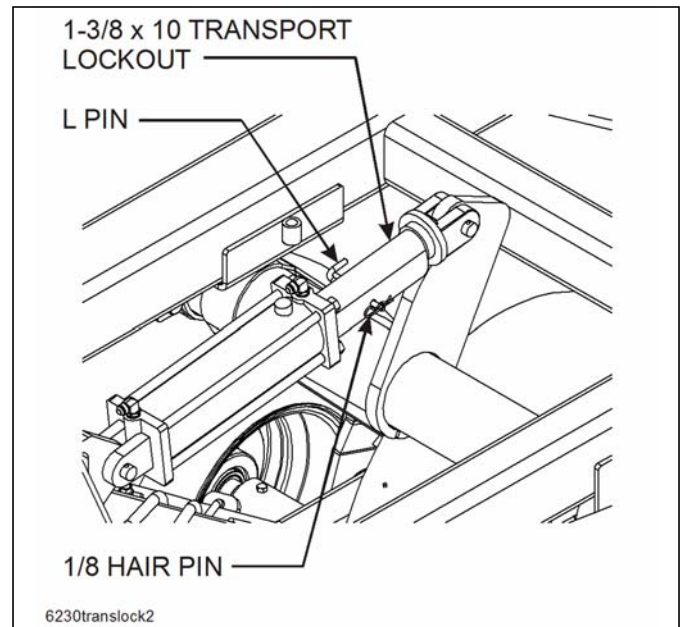

Figure 4-20: Installed Transport Locks
10. Install transport locks on both lift and fold systems. Do not depend solely on implement hydraulics for transport. (See Figure 4-20.)